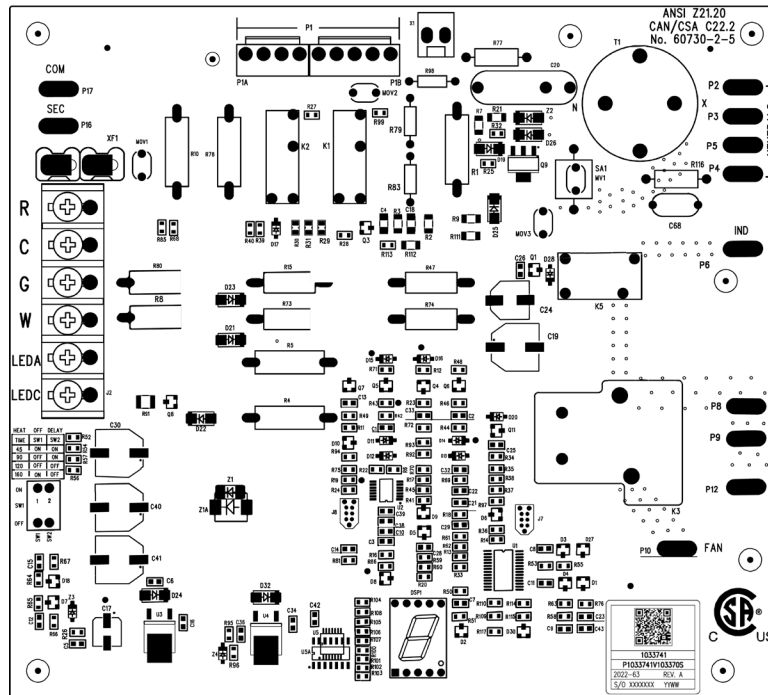
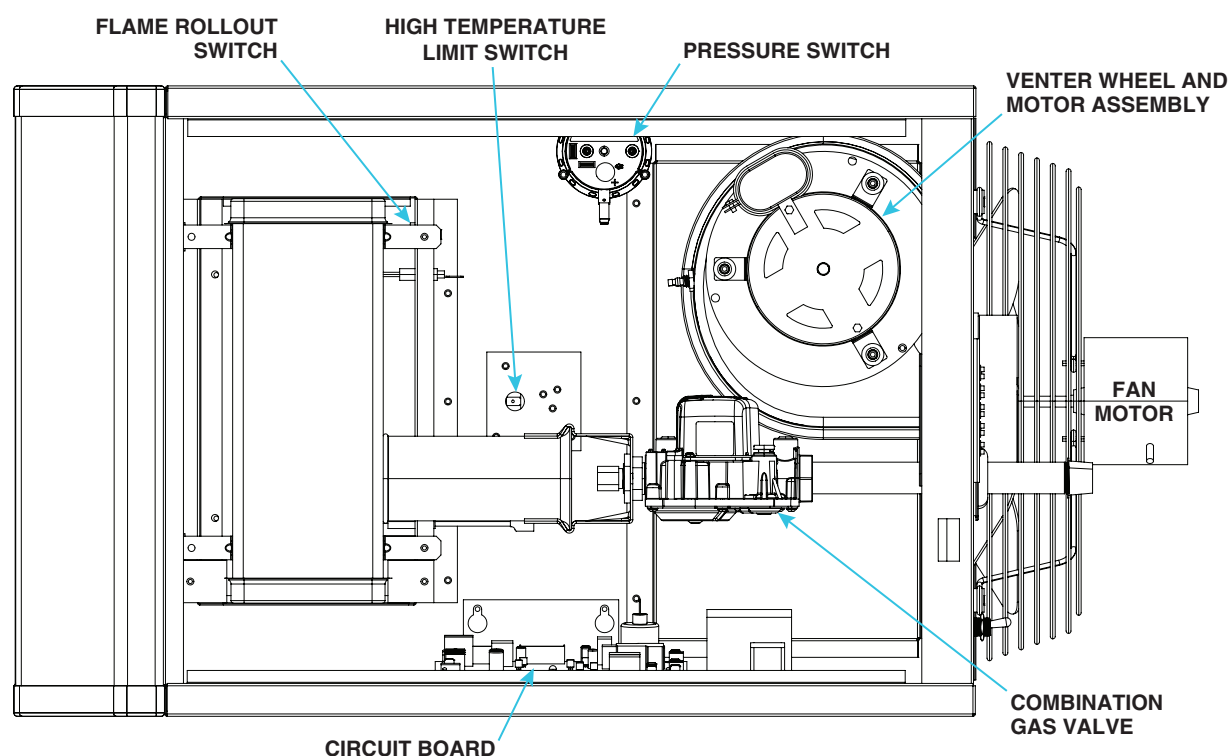

Figure 17. Circuit Board (DSI Control Module)
Figure 18. Control Locations (Typical)
- The circuit board (see **Figure 17**) is located inside on the bottom of the control compartment. The circuit board is polarity sensitive. The circuit board is factory-wired, but it is advisable to check to ensure that the black wire is the hot wire connected to terminal L1 and that the white wire is the neutral wire.
- The pressure (combustion air proving) switch (see **Figure 18**) is a pressure-sensitive switch that monitors air pressure to ensure that proper combustion airflow is available.
All units are equipped with a temperature-activated, automatic-reset high temperature limit switch (see Figure 18). The switch is factory-set and is non-adjustable. If the setpoint is reached, the switch interrupts the electric supply to the combination gas valve. This safety device provides protection in the case of motor failure or lack of airflow due to a restriction at the inlet or outlet.
The venter motor is assembled to the venter wheel (see Figure 18) and operates to provide combustion airflow. Operation is controlled by the circuit board (refer to Circuit Board \(DSI Control Module\) section).
Unit sizes 45–125 are equipped with a temperature-activated, manually-reset flame rollout switch (see Figure 18). The switch, located behind the top burner body support, is factory-set and is non-adjustable. If the setpoint is reached, the switch interrupts the electric supply to the gas valve. If the flame rollout switch activates, identify and correct the cause before resetting the switch.
The combination gas valve (see Figure 18) is powered by the 24V control circuit through the thermostat and safety controls. The diaphragm-type valve is pre-set at the factory and provides regulated gas flow.
The fan motor (see Figure 18) is equipped with automatic-reset thermal overload protection. If the motor does not run, the cause may be due to improper current. Ensure that the correct voltage is available at the motor.
The heater's ignition system is controlled by a circuit board (see Figure 18), a Direct-Spark Integrated (DSI) control module (see Figure 17), that monitors the safety devices and controls the operation of the fan and venter motors and the combination gas valve between heat cycles. The module's Seven-Segment Display (SSD) is visible through a viewport on the access door panel. In addition, there is a status LED on the bottom of the heater. Its status indications are **off** (heater is not powered or control board fault), **steady on** (heater is on with no faults), or **flashing** (heater is on with fault(s)). Additional status indications appear on the display at the bottom of the control module (labeled as DSP1, see Figure 17). The display's codes are listed and described in the Unit Troubleshooting Using DSI Control Module section.